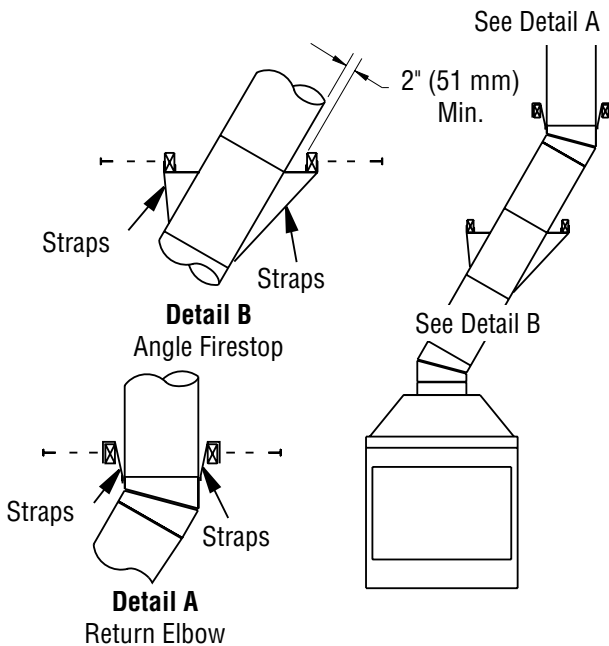

Figure 9 - Ceiling Support Pipe 12S-12DM
- Chimney weight above offset rests on return elbow. Straps must be securely nailed to rafters or joists (see Figure 9, details A and B).